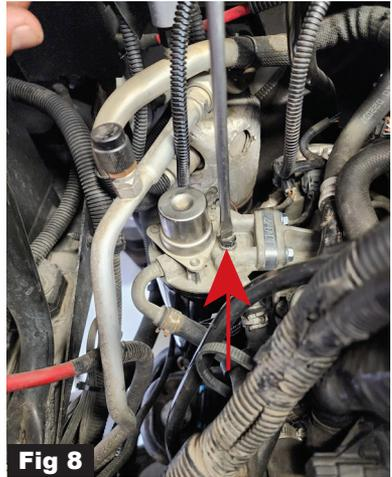

Fig 8
- Begin by loosening (do not remove) the air-bleed screw positioned on the upper part of the fuel filter housing. Please take note that if the factory plastic bleed screw shows signs of wear, we strongly advise replacing it with the PPE Billet Aluminum Air Bleeder Screw (PN 513081100) to ensure superior durability and performance. (Fig 8.)